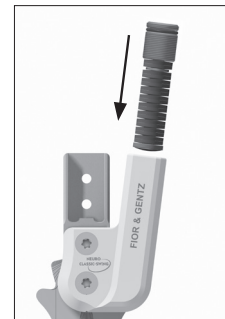

fig. 20
2. Now, turn in the sub-assembly consisting of spring unit and screw unit in the posterior spring duct (fig. 20) until it touches the system stirrup. It should still move freely. If you turn in the sub-assembly too far, the spring unit is preloaded too much and the maximum possible range of motion is restricted.